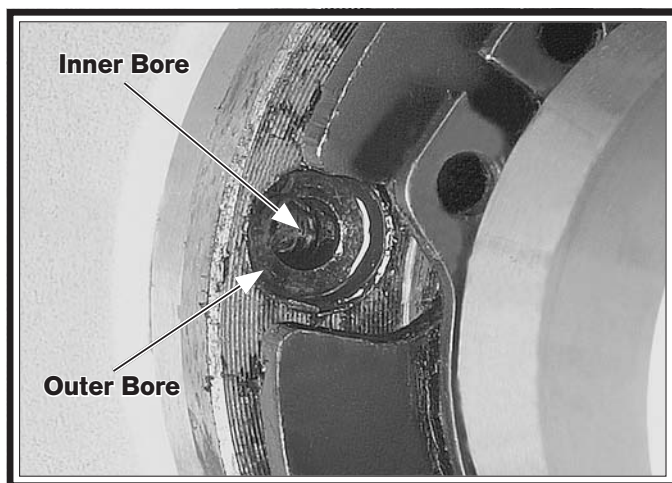

Figure 131. Shear pin bores aligned.
7. Rotate the lathe spindle to line up the inner and outer bores, as shown in **Figure 131**, and use the magnet to remove the other half of the broken shear pin.